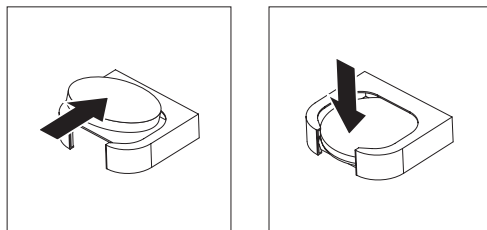

Figure 25. Installing the battery
- b. Press the battery down into the socket (see Figure 25) until it snaps into place.